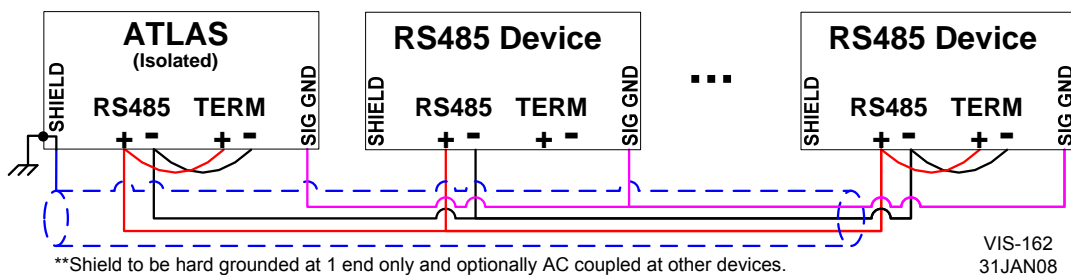

Figure 4-23. Example–RS-485 Interface to the SmartCore CPU A5200
- **RS-485.** Refer to Figure 4-23 for RS-485 wiring. The data lines (485+ and 485-) and signal ground (SIG GND) must be properly connected as shown. In addition, the shield (SHLD) should be connected in at least one location. The unit at each end of the network should be terminated with a resistor.